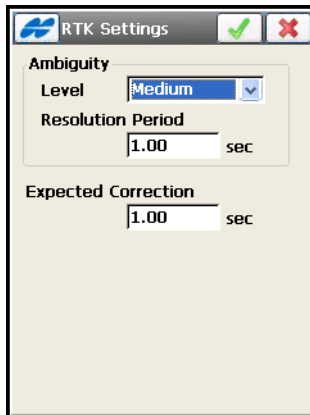

Figure 4-27. RTK Settings
16. To set ambiguity resolution parameters for RTK engine, select the *RTK Settings* option from the menu in the upper left corner of the *Advanced* screen. In the *RTK Settings* screen, set appropriate parameters (see Figure 4-27 on page 4-23).